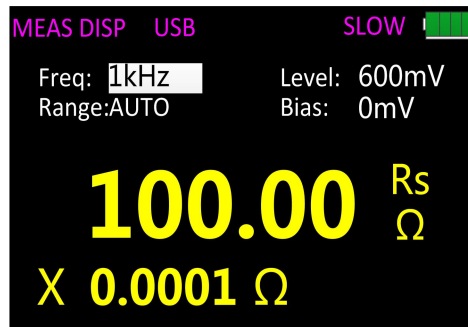

Figure 16
2. Press the AUTO/R/C/L/Z key until Rs is displayed on the interface which means to select resistance measurement, shown in figure 16;